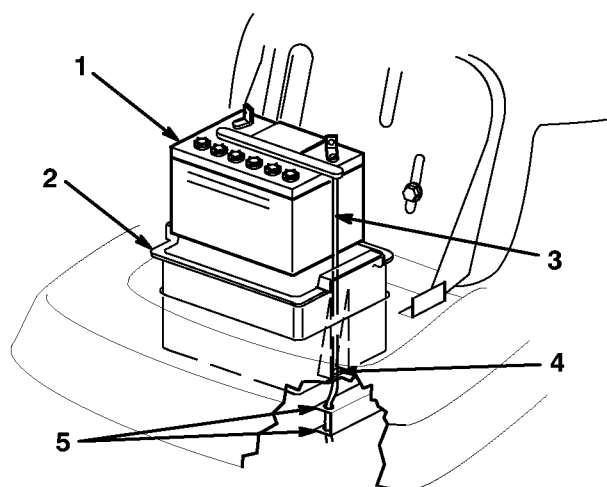

Figure 21
5. Remove the battery box, battery, and long vent tube from the chassis (Fig. 21).
1. Put the battery into the battery box and slide the vent tube into the channel and through the slot in the bottom of the box (Fig. 21).
IMPORTANT: Look down into the cut out area where the battery box fits into the chassis. Notice the hole at the end of the right frame member (Fig. 21). Always install the long battery vent tube through the hole to prevent battery acid from corroding the tractor and mower.
2. Install the battery box and battery into the chassis (Fig. 21). Make sure to slide the end of the vent tube through the hole in the frame (Fig. 21).